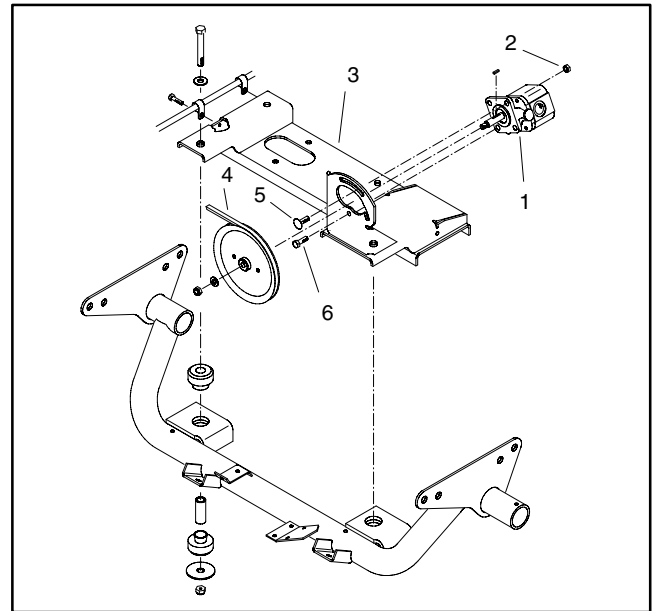

Figure 5
7. Loosen fasteners that secure hydraulic pump to engine mount (Fig. 5). Rotate pump to allow drive belt (Item 42) to be removed from pump and engine pulley.